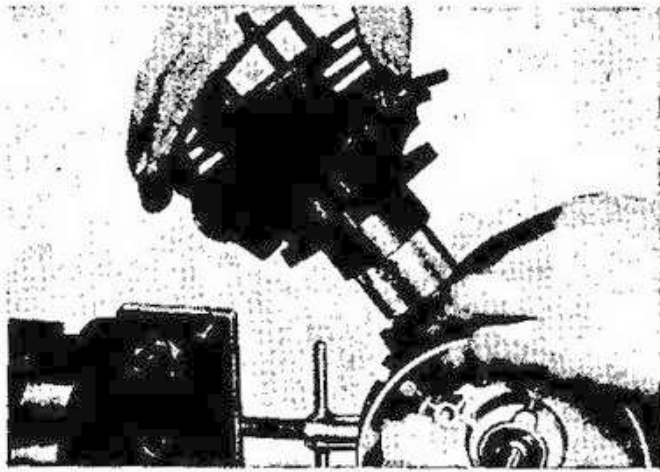

Fig. 24 Removing cylinder
2. Unscrew the four M 6 hexagonal nuts from the threaded pins on the cylinder base (illustrated on fig. 23). Remove spring washers or spring rings and draw out cylinder (see fig. 24).